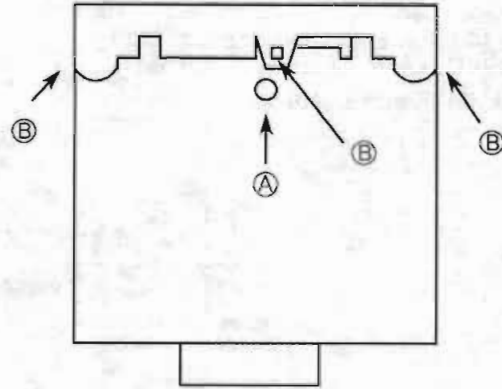

Figure 1 Bottom view
3. Remove the screw ① and pull the tray toward front out.
4. If the power can not be turned on due to any malfunction, insert a filips driver to the hall ② to turn the screw to move the tray out (Figure 1).
5. Release the pawls ④ and remove the front panel assembly (Figure 1).